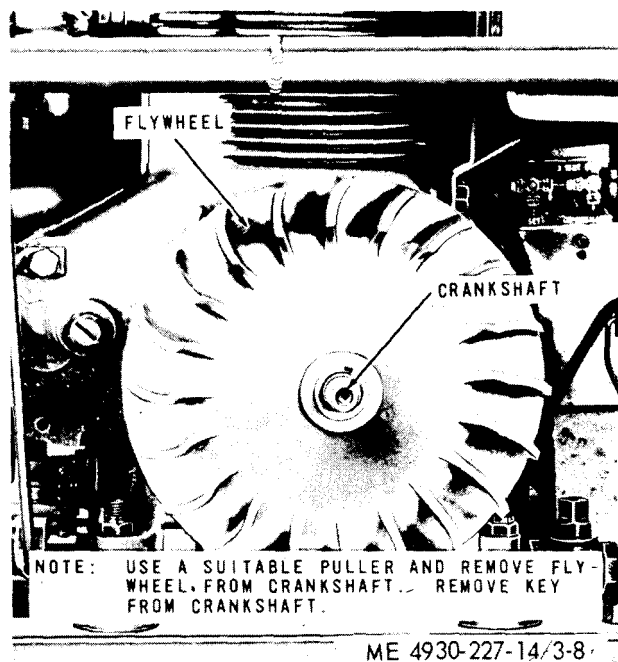

Figure 3-8. Flywheel, removal and installation.
(1) Remove the air shroud (para 3-20).
(2) Refer to figure 3-8 and remove the flywheel.
(1) Refer to figure 3-8 and install the flywheel.
(2) Install the air shroud (para 3-20).